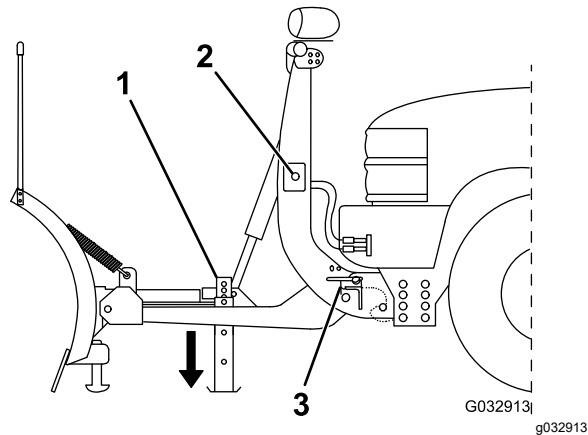

Figure 34
3. Pull the kickstand spring pin outward and lower the kickstand, then release the spring pin to secure it (Figure 34).